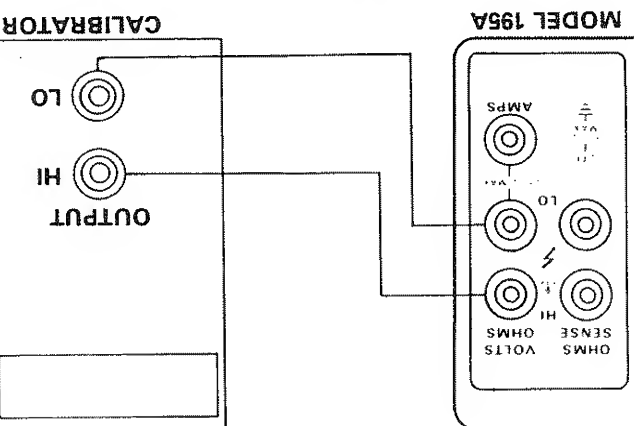

Figure 5-1. Connections for Voltage Verification
2. Connect the DC calibrator to the instrument as shown in Figure 5-1. The positive side of the calibrator output should be connected to the VOLTS OHMS HI terminal. Check to see that the front panel terminals are selected with the rear panel INPUTS switch.
2. Connect the calibrator to the Model 195A as shown in Figure 5-1. Set the calibrator output to 190.000mV AC at a frequency of 50Hz. See that the INPUTS switch is in the front panel position.